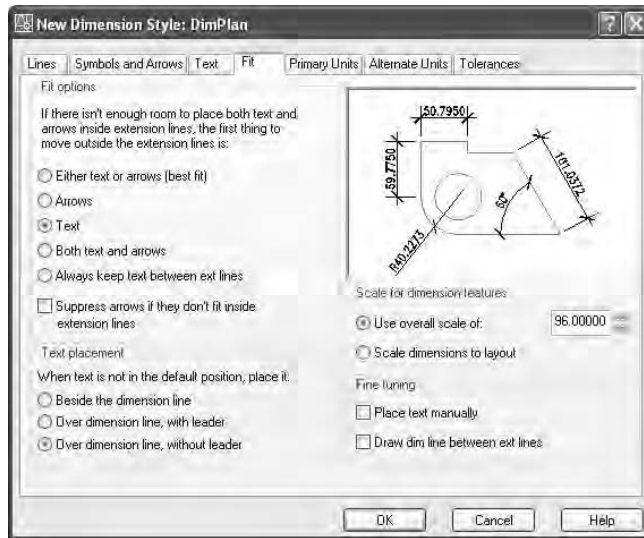

FIGURE 11.6: The new settings in the Fit tab
1. Click the Fit tab in the New Dimension Style dialog box. Look ahead to Figure 11.6 to see a graphic of the Fit tab.
4. Make no changes in the Fine Tuning area for now. Move to the Scale For Dimension Features area. Be sure the Use Overall Scale Of radio button is active. Set the scale to 96. (Use the highlight-and-type method described in step 4 of the earlier section, "Using the Lines Tab.") The settings in the Fit tab should look like those in Figure 11.6.